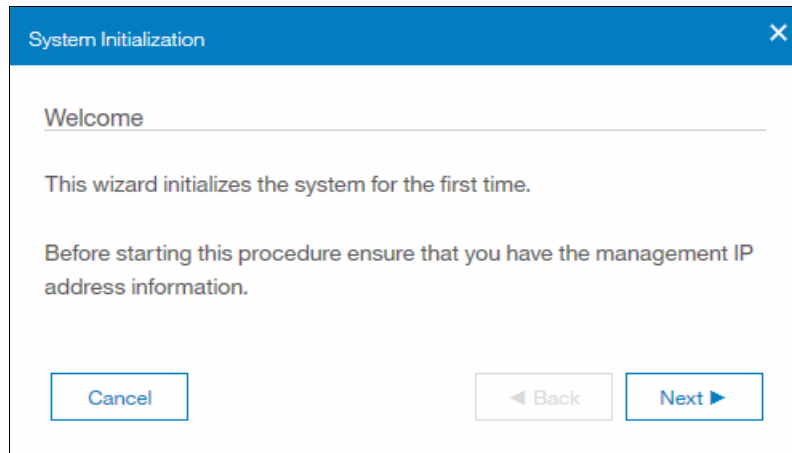

Figure 6-47 System initialization welcome pane
6. The System Initialization Welcome pane is displayed (Figure 6-47).